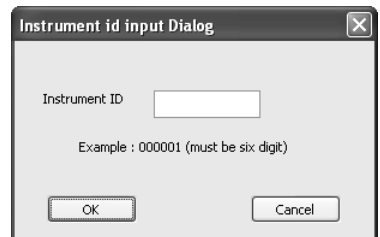

Figure 10 : Instrument ID Dialog
3. Type the instrument ID in the dialog box (Figure 10) and select **OK**.